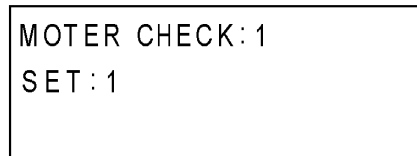

Fig. 24
- (1) Press the “RET” key. The display shifts to the one as shown in Fig.24.